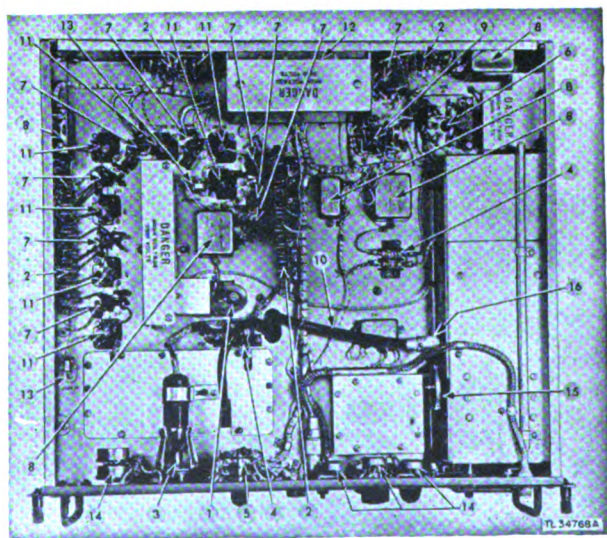

Figure 29. Receiver and Transmitter BC-1267-A—bottom view.
b. SAFETY AND EQUIPMENT PRECAUTIONS (fig. 29). (1) Short-circuit the terminals found on all bushings ① before attempting maintenance.
(2) Do not change adjustments on r-f oscillator when cleaning inside r-f oscillator compartments.
(3) Be careful when cleaning the eye tube ③. Handle gently.
(4) Do not change adjustments in r-f tuner unit.
(5) Avoid damage to modulator tube by keeping the cover on during cleaning operation. The metal-to-glass seal is easily broken.
ITC. BOTTOM OF CHASSIS (fig. 29).